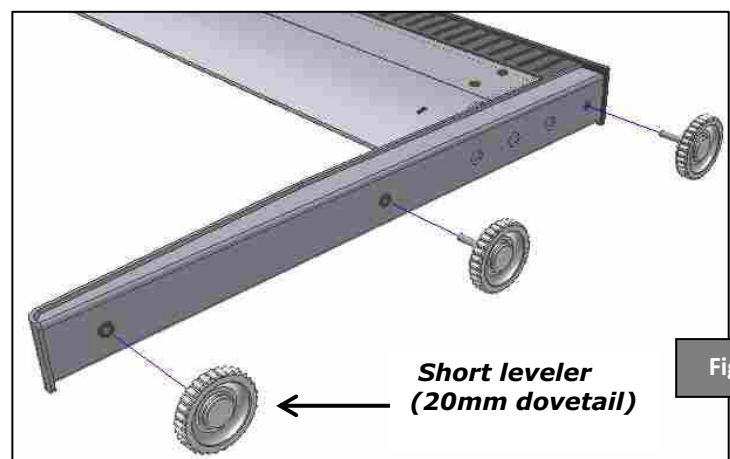

Fig 4
STEP 3 – Screw the **levelers** on to the **foot rivets**. Mount the **short leveler**, i.e. the **leveler with 20mm dovetail**, on the front of the **foot**. (Fig. 4)